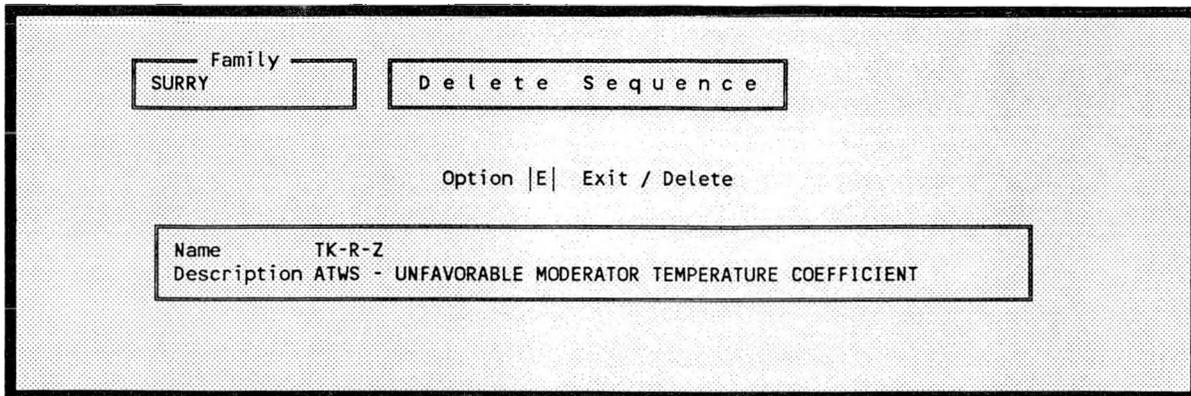

Figure 261. Editing screen for deleting a sequence.
8.3.6.4 Delete. This option allows you to delete a sequence record. To invoke this option, type <D> in the option field, highlight a sequence name and press <Enter>. The Delete Sequence screen is shown in Figure 261. Two options are available: Exit and Delete.